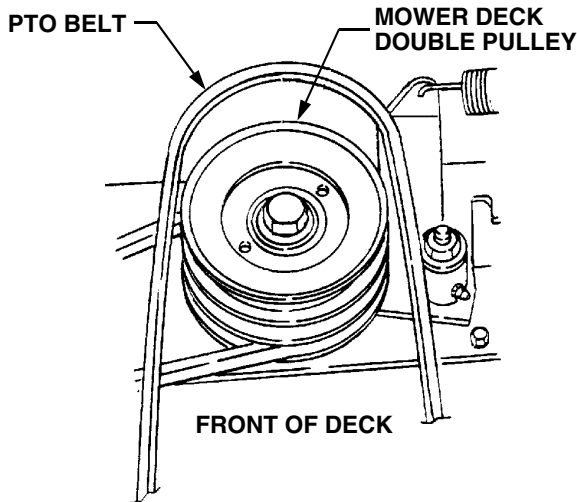
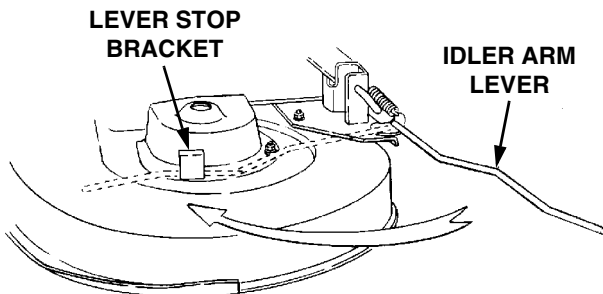

Figure 36
Figure 37
3. Remove the rearward end of the PTO belt from the upper pulley of the deck double pulley (Refer to Figure 36). Engage the deck idler arm lever back into its stop bracket (Refer to Figure 37).